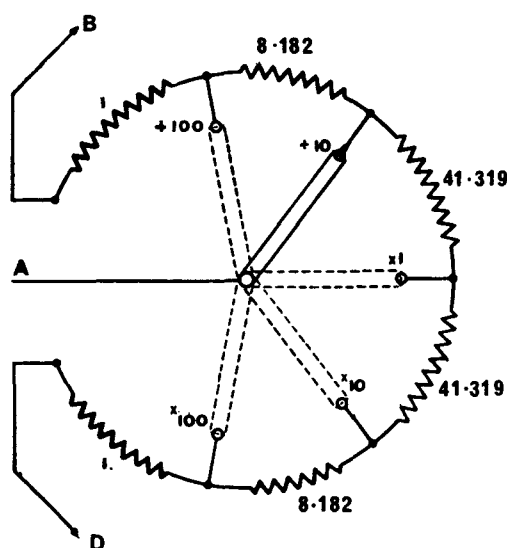

Fig. 21.10 Ratio Switch for Wheatstone Bridge
The substitution of individual resistors in the ratio arms of a practical resistance measurement bridge is, at best, a cumbersome process, and the selector-switch system shown in Fig 21.10 is much more convenient. The switch has five positions, and six resistors, whose individual resistances are in the ratios shown, can be grouped to give an r_1/r_2 ratio of 1/100, 1/10, 1/1, 10/1 or 100/1—the individual switch positions are marked to correspond to those ratios. The value of the resistance under test (X) is found by applying the ratio-switch setting to the observed value of R when the bridge has been balanced by adjusting R.